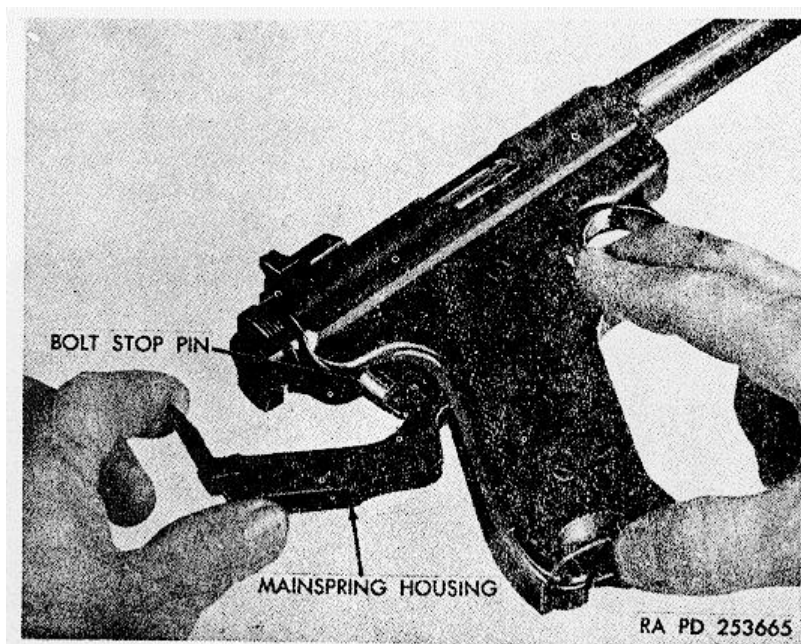

Figure 47. Removing mainspring housing (Ruger).
- (2) Remove any cartridge remaining in the chamber (par. 11c).
- (3) Pull the housing latch out to release the mainspring housing assembly (fig. 47) from the grip frame. Rotate the mainspring housing about the bolt stop pin pivot until the claw on the housing is released from the receiver. Withdraw the bolt stop pin from the grip frame, receiver, and bolt, and remove housing and pin.
- (4) Slide the bolt assembly from the receiver.
- (5) Slide the barrel and receiver forward on grip frame to release the frame from the receiver.
- (3) Press the trigger and with a small screwdriver push the hammer into the released position.
- (4) Insert the bolt stop pin into the hole in the grip frame and the slot in the bolt assembly. The pin- should be forced past the recoil spring guide.
- (5) Rotate the mainspring housing assembly (fig. 47) about the bolt stop pin, pivot until the claw on the housing engages the receiver.
- (6) When folding the mainspring housing assembly into group frame, the ham